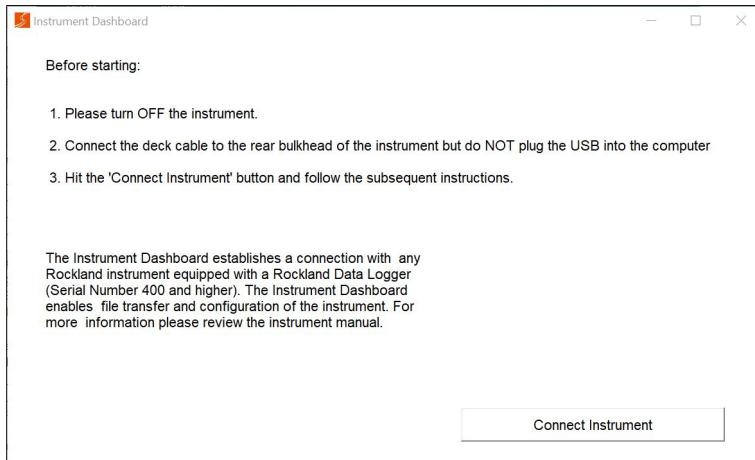

Figure 28: Connecting to the instrument with Zissou Essentials.
5. Hit the “Connect Instrument” button (Figure 28).